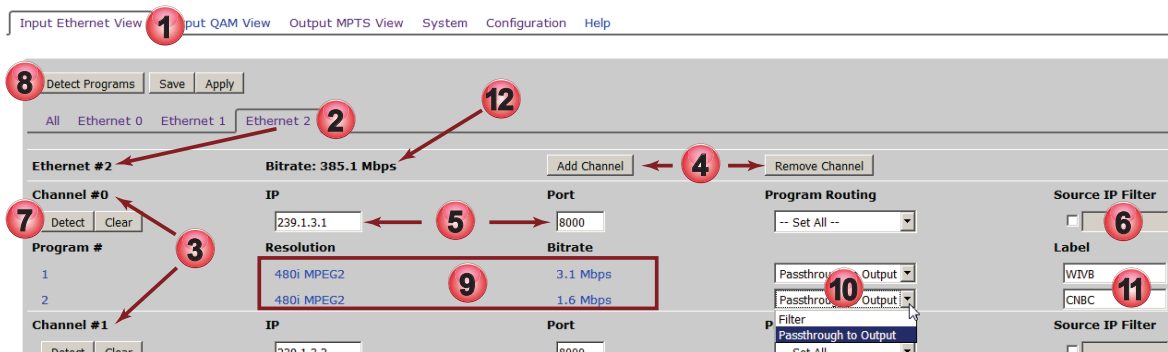

Figure 3-1: Input Ethernet Page
1. Click the **Input Ethernet View** tab to find this page, Figure 3-1.
**Table 3.3a: Input Ethernet Configuration (See Figure 3-1)**